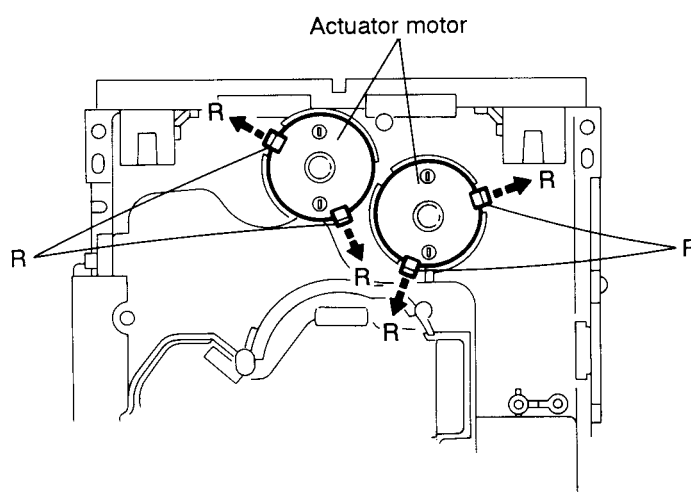

Fig. 5-50
4. Remove the belts respectively from the right and left actuator motor pulleys and pulley gears (See Fig. 5-50).
5. After turning over the chassis assembly, remove the actuator motor while spreading the four pawls (R) fixing the right and left actuator motors in the arrow direction (See Fig. 5-50).